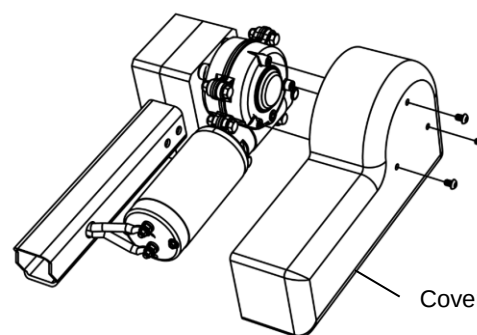

Figure 13
12. **Figure 13.** If applicable, reinstall the protective cover on the motor.